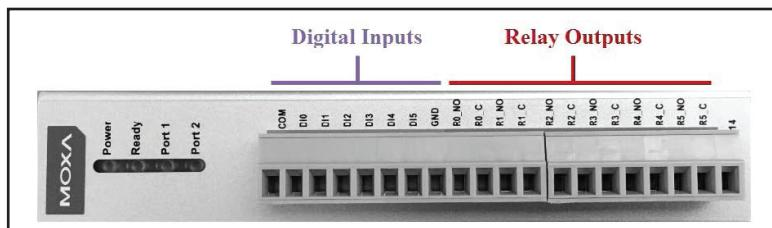
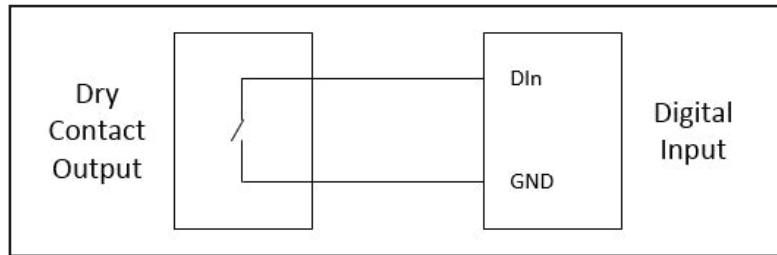
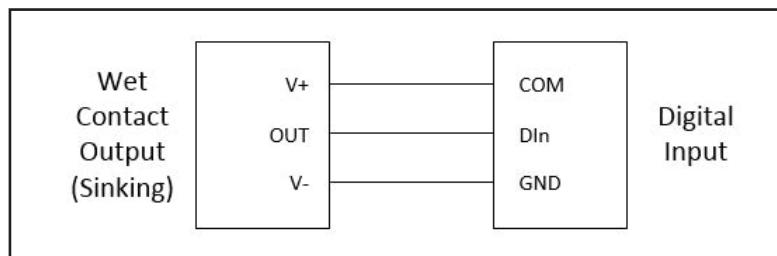

Figure 1— I/O Module Input and Relay Connections
Figure 2—Digital Input connection to Dry Contact Output
Figure 3—Digital Input wiring to Sinking Wet Contact Output (NPN)
Figure 1 shows the digital input and relay output connections of the Moxa E1214-T device contained within the I/O Module. Up to six dry or wet contact devices (see specifications section) can be connected to the digital input channels (DI). The dry contact inputs must share a common ground connection (GND), and the wet contact inputs must share a common source/return (COM). The proper connections for dry contact and wet contact devices are illustrated in Figure 2 and Figures 3 and 4, respectively.